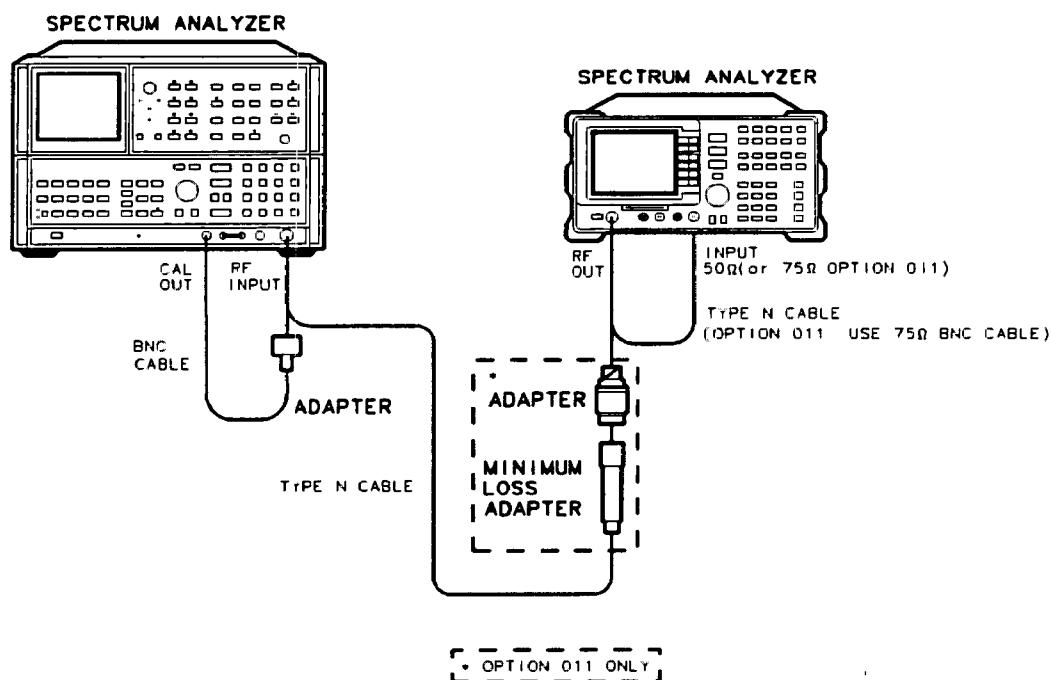

Figure 3-25. Harmonic Spurious Outputs Test Setup
1. Connect the Type N cable between the RF OUT 50Ω and INPUT 50Ω connectors on the HP 8590B spectrum analyzer. See Figure 3-25.
7. Connect the Type N cable from the tracking generator output to the HP 8566A/B RF INPUT. See Figure 3-25.